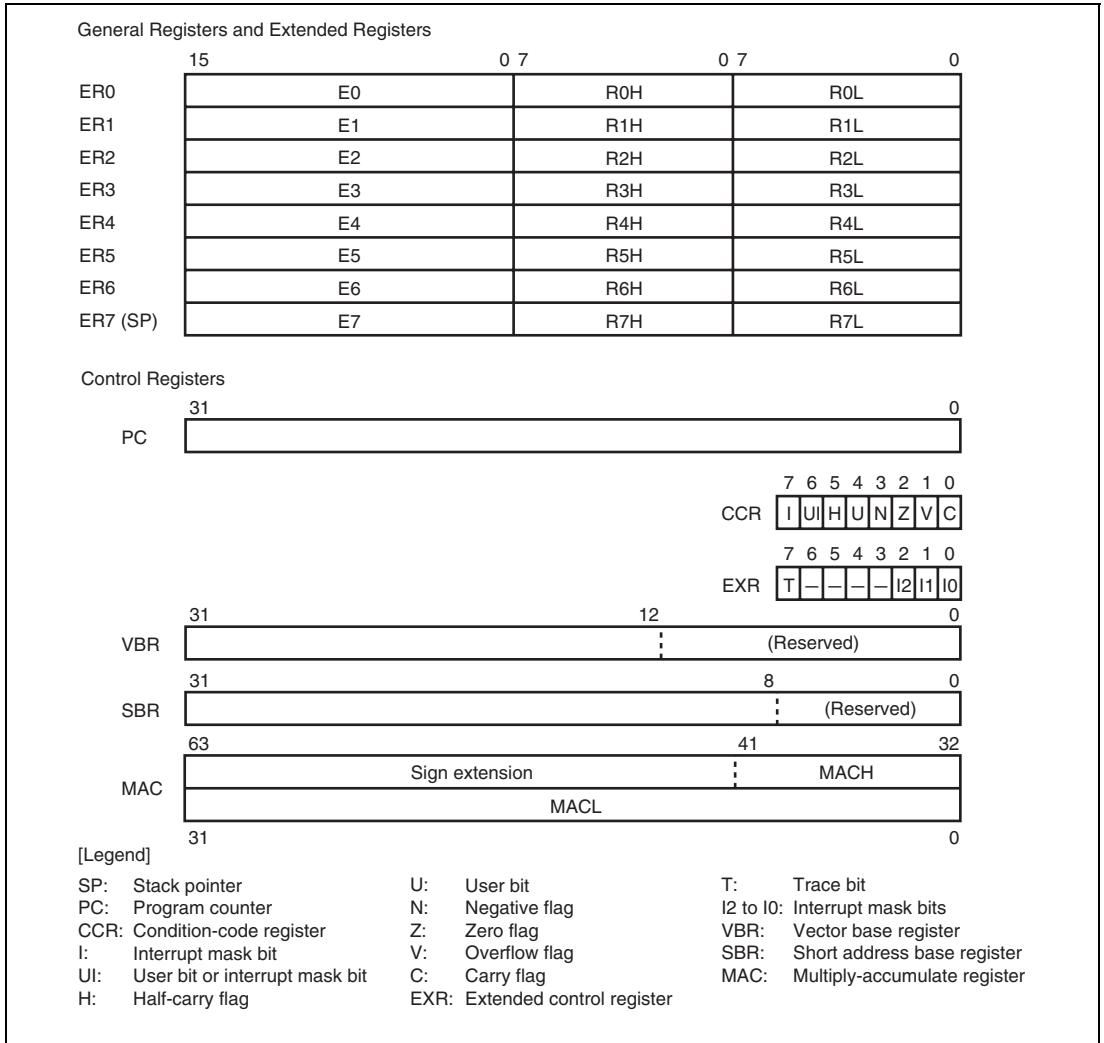

Figure 2.9 CPU Registers
The H8SX CPU has the internal registers shown in figure 2.9. There are two types of registers: general registers and control registers. The control registers are the 32-bit program counter (PC), 8-bit extended control register (EXR), 8-bit condition-code register (CCR), 32-bit vector base register (VBR), 32-bit short address base register (SBR), and 64-bit multiply-accumulate register (MAC).